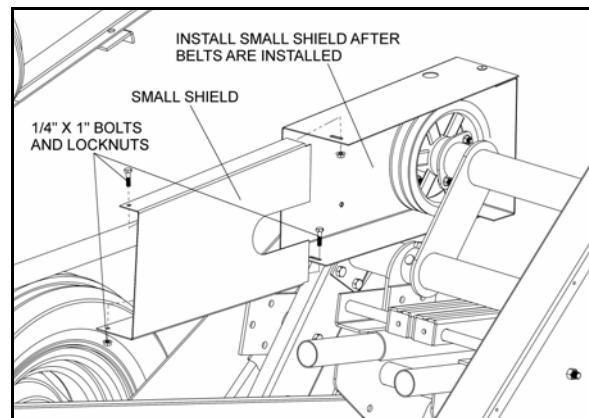

Figure 3.48
16. Install main drive belts that were supplied with auger. Slide small shield to cover main drive pulley and attach as shown in Figure 3.48 with two  $1/4'' \times 1''$  bolts and nuts.